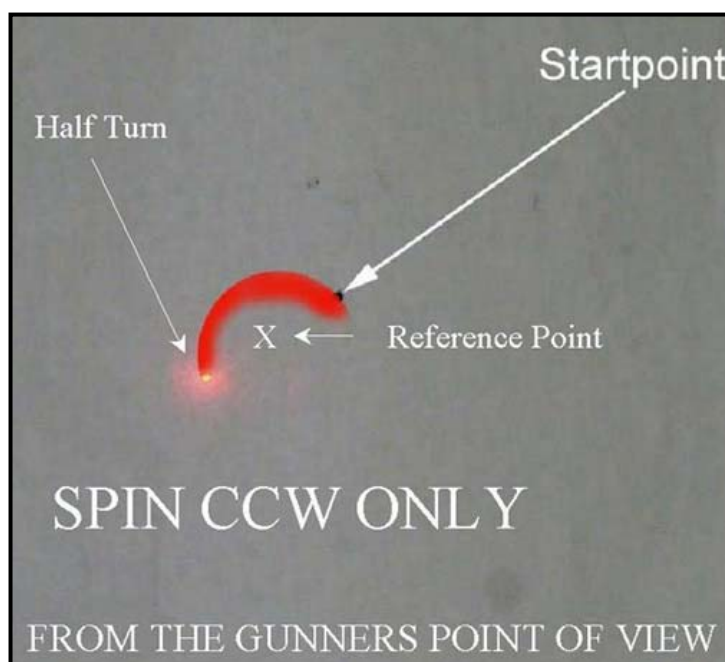

Figure 8-5. Example of a start point, half turn, and reference point.
(7) The reference point is the point approximately halfway between the start point and the half-turn point (Figure 8-5).